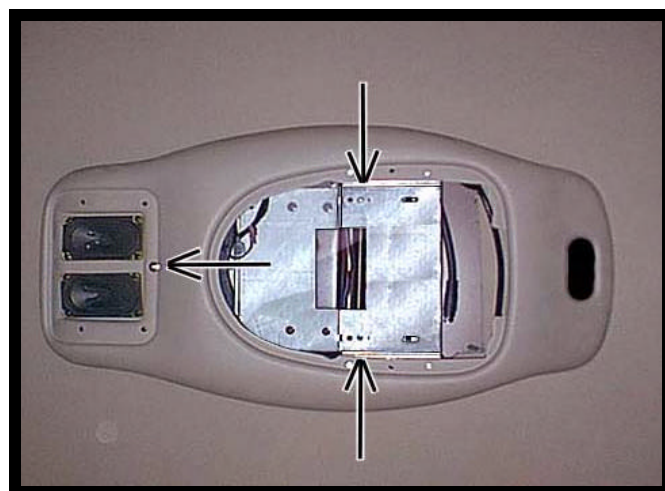

FIGURE 6
10. Raise console (item 7 pg 2) into approximate position against headliner. Loosely install using (2) two 6-32 X 3/4" screws (item 2 pg 2) through the smaller holes in bracket on console into threaded clips on mounting bracket. See Fig. 6.
11. Using a scribe or similar tool, align hole in rear of console with slot in mounting bracket. Loosely secure rear of console using (1) # 8 X 1 1/2" screw (item 4 pg 2). Make sure console is straight then tighten (2) two 6-32 screws previously installed. See Figure 6.